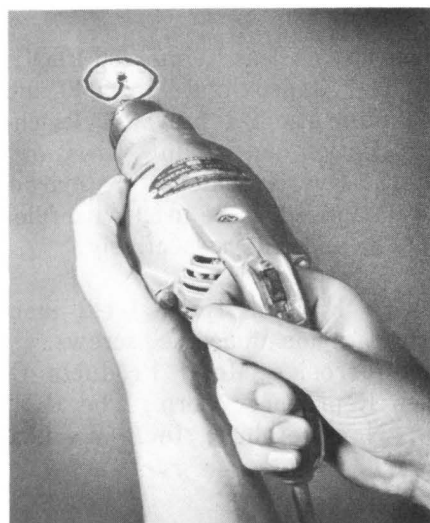

Fig. 5—Making Cutout
4.09 Using a spiral router bit in a high speed electric drill (at least 1100 rpm), cut out the damaged area (Fig. 5) to the scribed line *taking every precaution to prevent the cutout portion and the chips from falling into the antenna.* The filler patch should fit loosely into the cutout hole.